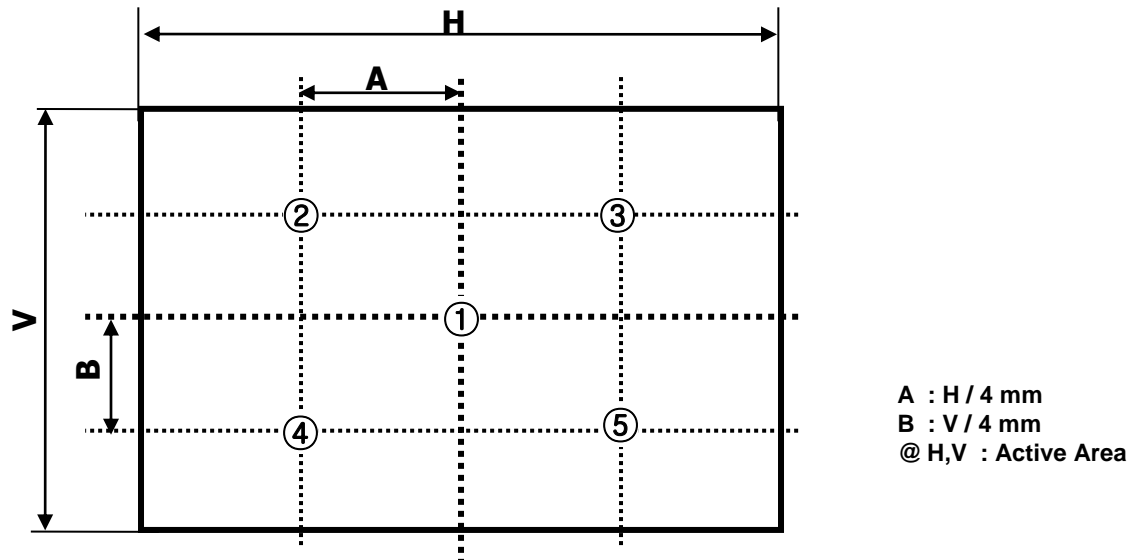

FIG.9 5 Points for Luminance Measure
2. Surface luminance are determined after the unit has been 'ON' and 1 Hour after lighting the backlight in a dark environment at $25 \pm 2^\circ\text{C}$. Surface luminance is the luminance value at center 1-point across the LCD surface 50cm from the surface with all pixels displaying white. For more information see the FIG. 9.
For more information, see the FIG. 9.